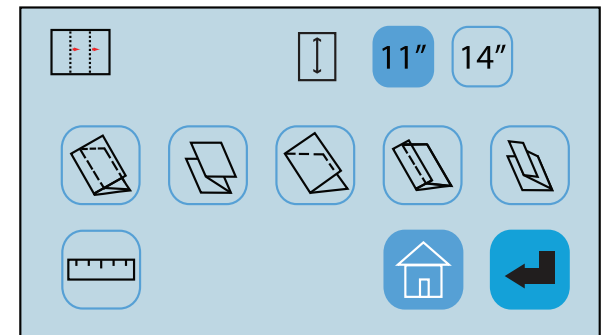

Fig. 27
3. From the Standard Fold Override Screen select the paper size and fold type that you would like to override (Fig. 27). Then press the enter  icon.